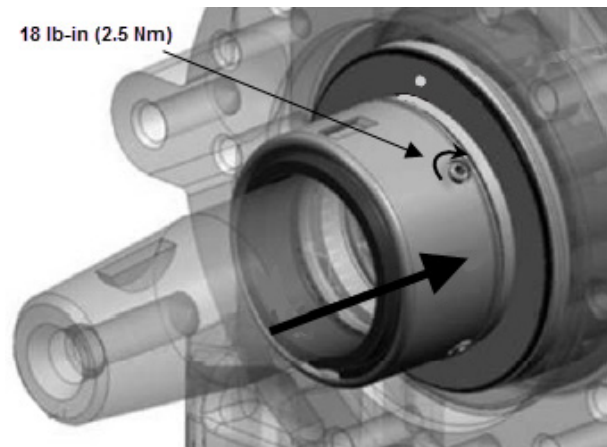

FIGURE 34: INSTALLING NEW SLIDING RING
- Secure the sliding ring to the shaft with the two set screws (figure 34). *Thread locker is pre-applied to the set screw threads.*